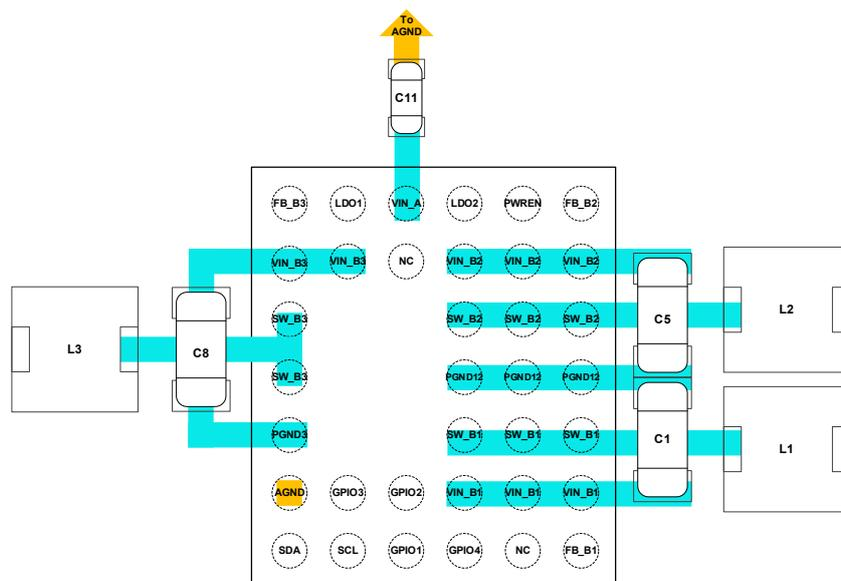

Figure 15. Recommended Layout
8. Figure 15 illustrates the recommended power and signal connections, as well as the routing beneath the IC. For a detailed routing example, refer to the SGM260320 evaluation kit.